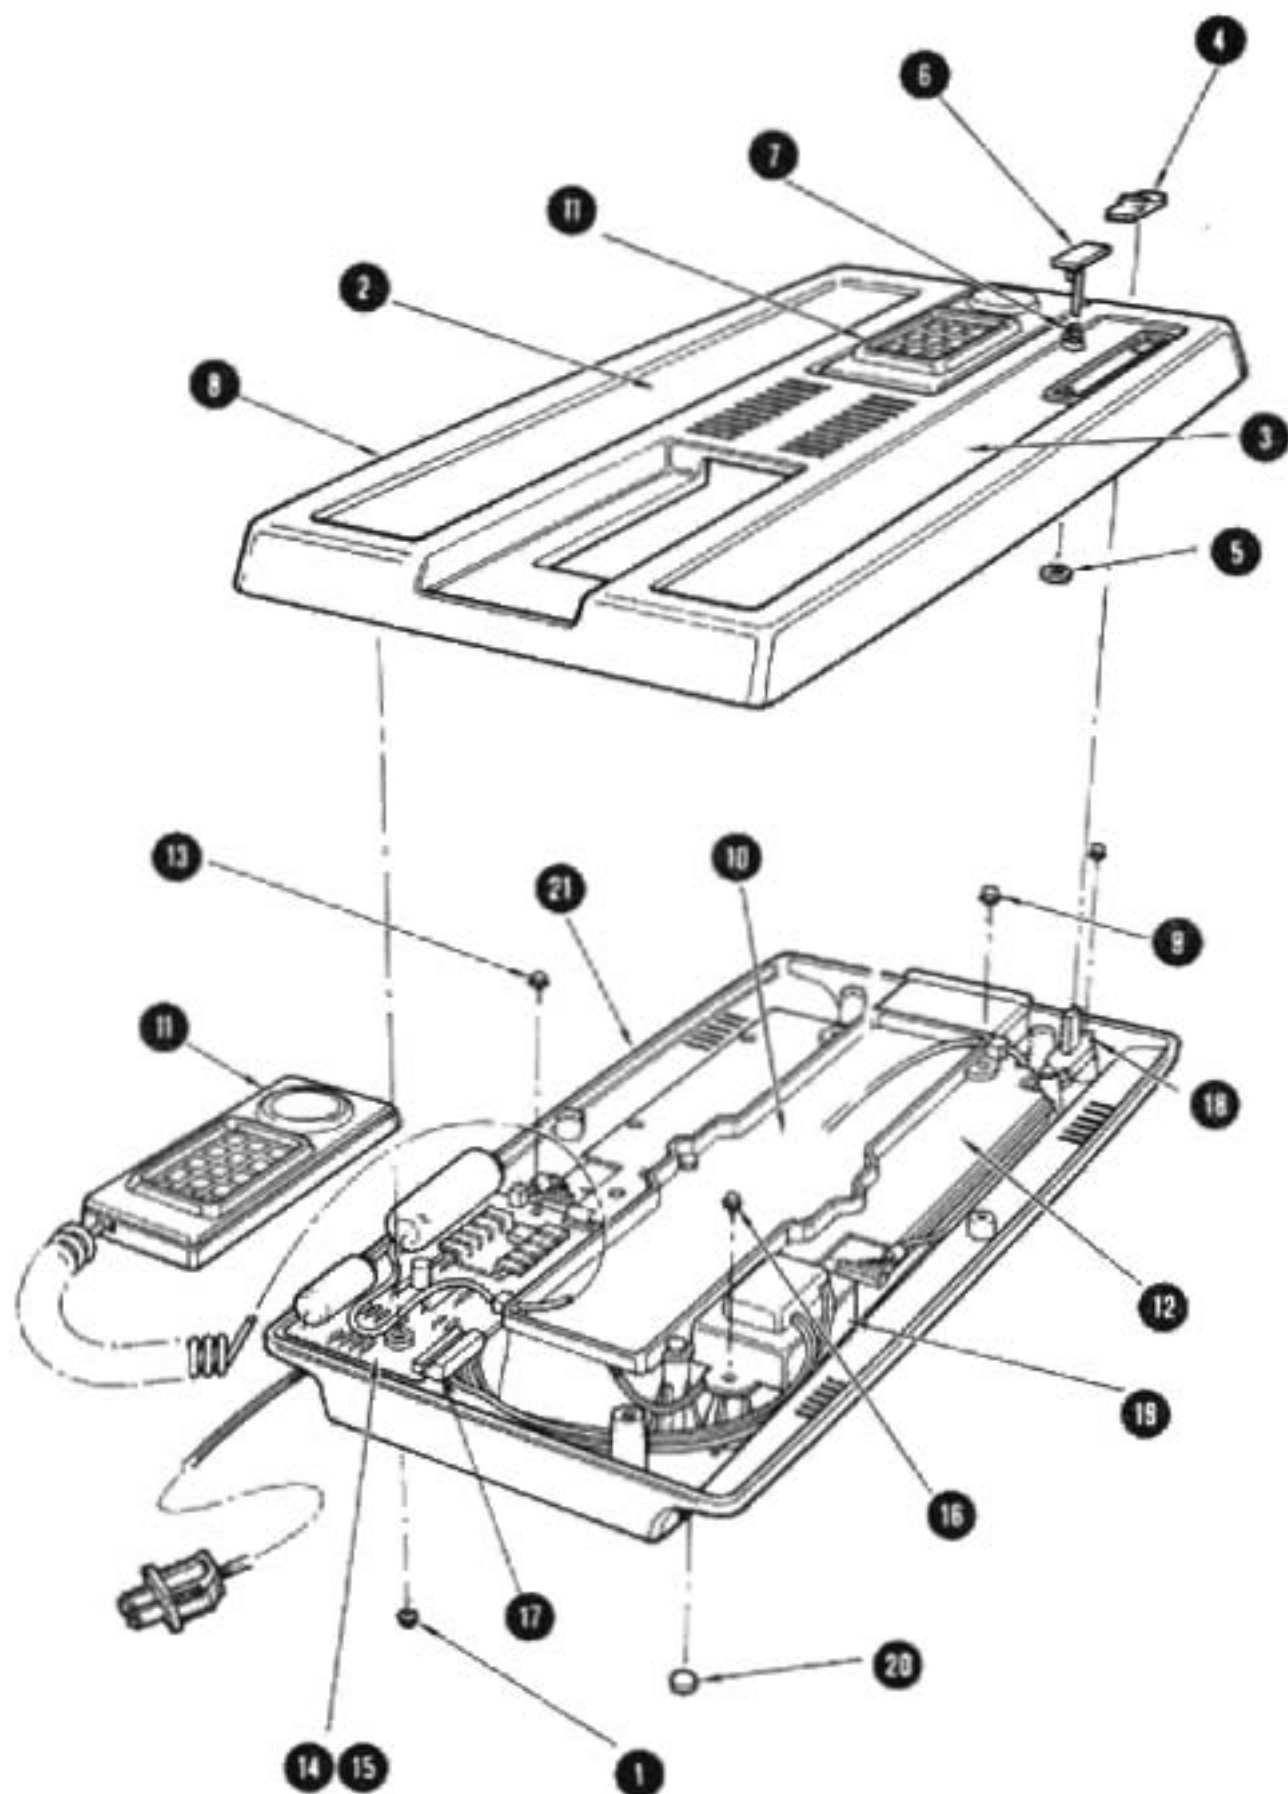

Figure 6-1 EXPLODED VIEW Console Assembly
5-2. ASSEMBLY OF CONSOLE ASSEMBLY. Refer to Figure 6-1 (Page 6-3) and assemble the console assembly as follows:
f. Carefully connect the 5-pin ribbon cable (42, Figure 6-3) and 2-pin connector (58) from the PCB Logic (12, Figure 6-1) to the PCB Power Supply (14) as illustrated in Figures 5-1 and 5-2.
g. Install tray (10) in bottom housing assembly (21) and secure in place with six screws (9).
h. If removed, install spring (7), reset button (6) and fastener (5) on top housing assembly (8).
i. Slide hand controller assemblies (11) through openings in top housing assembly (8). Install top housing assembly on bottom housing assembly (21).
k. Carefully invert console assembly and secure top housing assembly (8) to bottom housing assembly (21) with six screws (1).
b. Locate the desired part on Figures 6-1 through 6-4 and note the numerical index number or reference designator of the part, as applicable.
6-2. DETAILED PARTS LIST. Replaceable parts and assemblies for the Mattel Intellivision Master Component are illustrated in Figures 6-1 through 6-4 and identified by index number in the associated detailed parts lists.